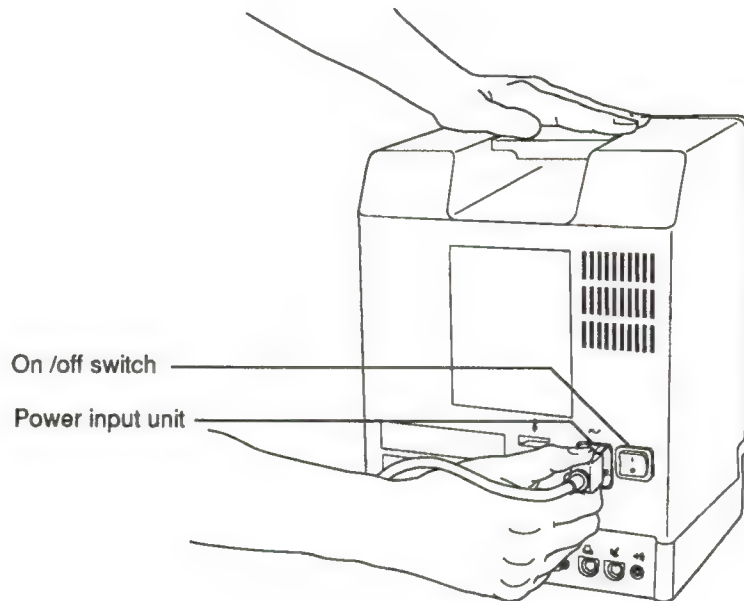

Figure 5. Plugging in the power cord
1. Plug the power cord into the power input unit, which is next to the power switch on the back of the Macintosh SE, as shown in Figure 5.